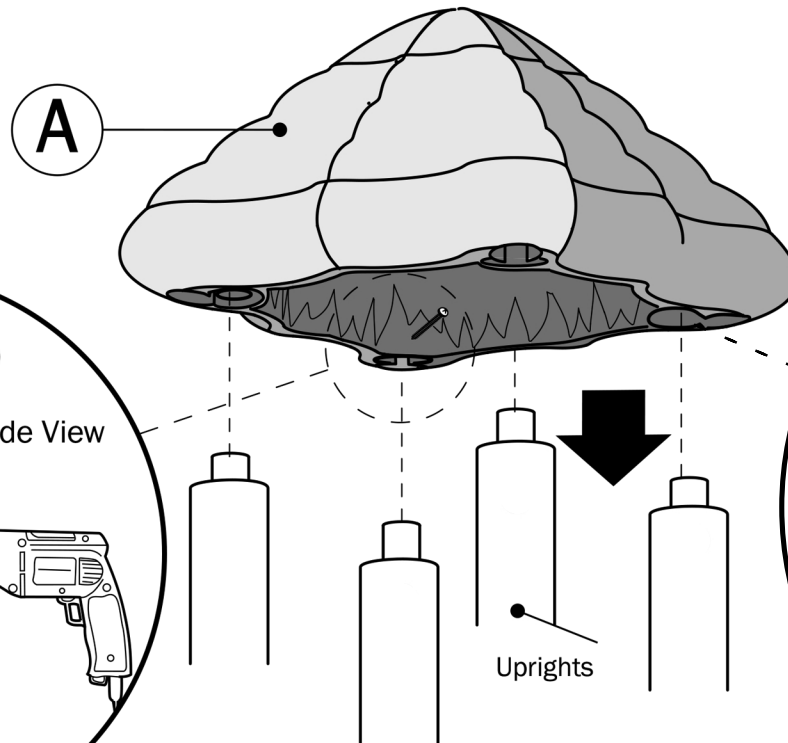

Figure 1
1. Use "T" Tool, turn clockwise to tighten all Upper Post #1 to Lower Post #1. See *Figure 1*.
2. Lower Roof (A) onto Uprights
3. Centered horizontally with Upright, measure 1" (25mm) up from bottom of Roof (A) and drill 1/8" pilot hole through Roof and into Upright. *See Figure 1.*
4. Secure Roof (A) to Uprights with (4) Self tapping Screws (C)
See Figure 1